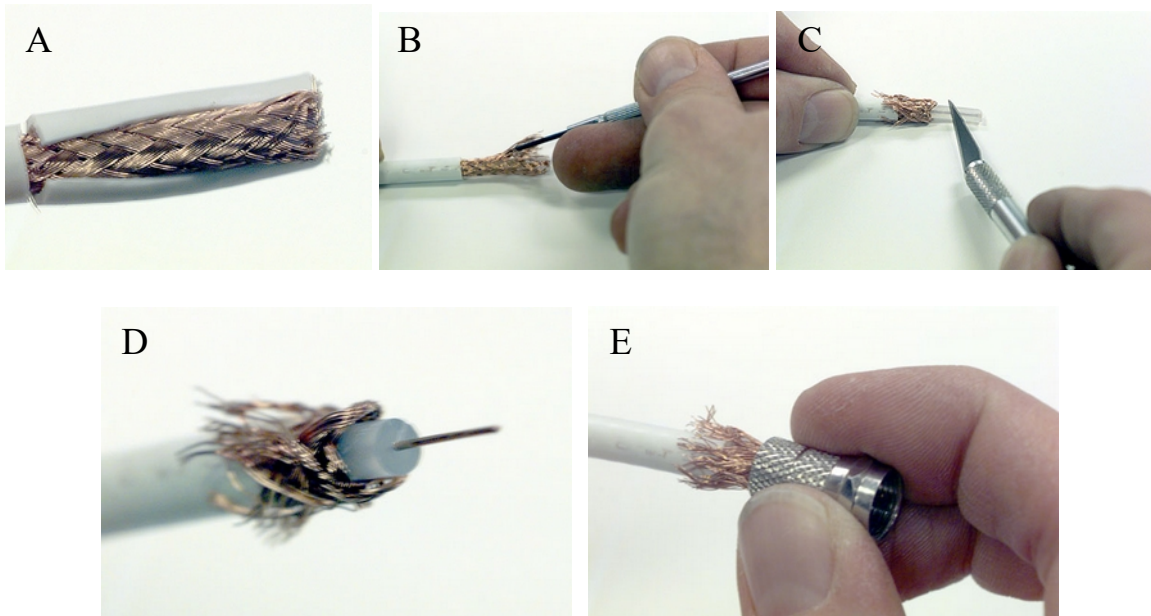

Figure 5a –e. Prepare the coax and install the F-connector.
1. ○ Remove 1 inch (2.5 cm) of the coax outer insulation (fig 5a).